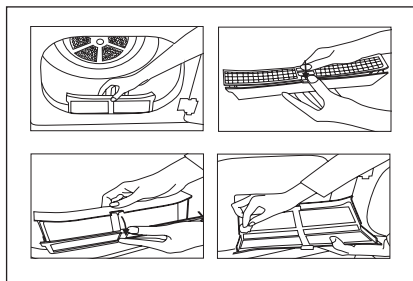

Figure 1
- 2.a) If the product's cover filter can be opened as shown in Figure 1, remove the filter by pulling it up and open the filter.